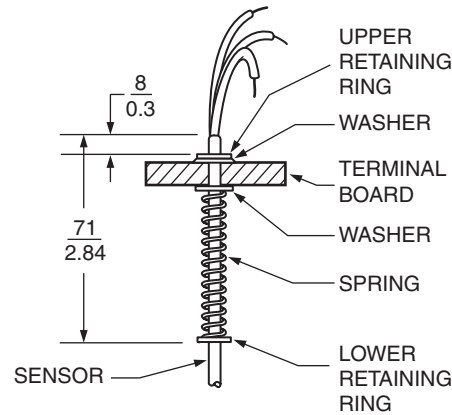

Figure 8. Sensor/Terminal Board Assembly
5. Install lower retaining ring on the sheath of the new RTD at the dimension shown in Figure 8.
7. Install upper retaining ring on the sheath of the new RTD at the dimension shown in Figure 8.